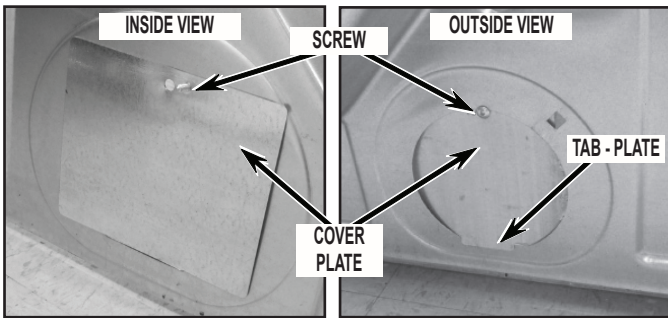

FIGURE 20
22. Plug the 4" hole in the rear panel that the existing exhaust vent ran through using the metal cover plate included with kit. Use screw included with kit to secure plate in position. Install plate from the inside of the dryer rear panel with tab of plate positioned as shown in *Figure 20*.